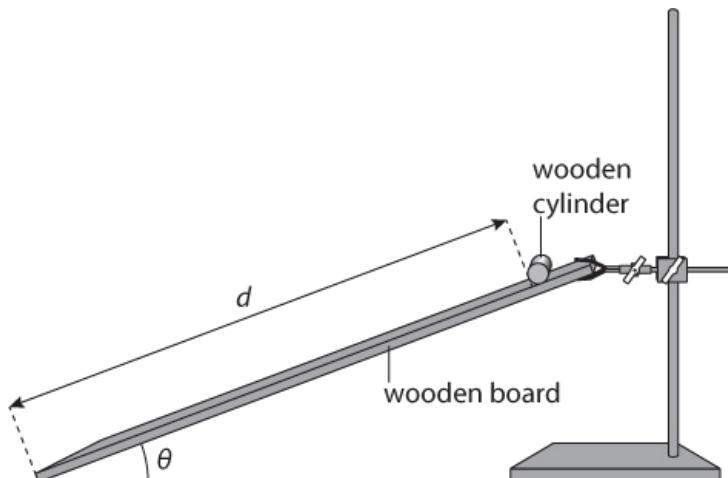

Figure 1.10: Wooden cylinder on sloping board.
- Set up the apparatus as shown in Figure 1.10.
- 1 Use the protractor to measure the angle θ between the plane and the bench as shown in Figure 1.10.